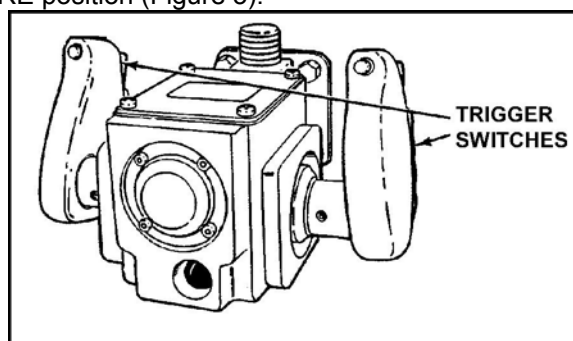

Figure 3. Gunner's control handles.
- (1) Press the AP SS button.
- (2) Move the ARM-SAFE-RESET switch to the ARM position.
- (3) Press the LO AMMO OVRD button. The LO AMMO, AP SS, and SEAR lights should be on and not flashing.
- (4) Squeeze the trigger switches on the gunner's control. The bolt position indicator should be in the MISFIRE position (Figure 3).